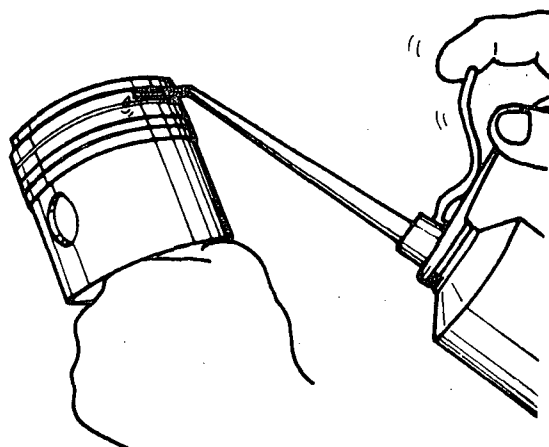

Fig. 2
- b) Lubricate the grooves of the rings with oil (fig. 2).